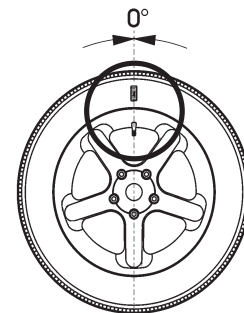

Figure 37
- Readjust the tire on the rim so that the reference mark made is aligned with the valve (use tire changer) (Fig. 37).